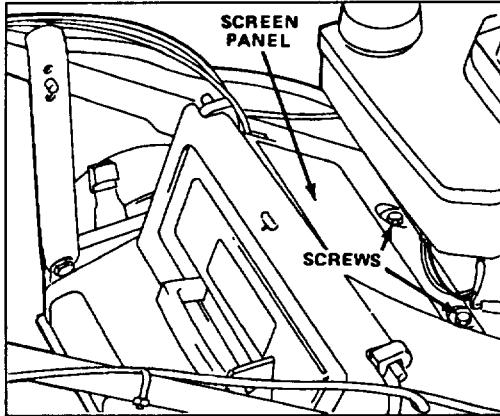

Figure 21
2. Remove (2) screws securing screen panel to top of mower housing (Fig. 21). Remove panel.